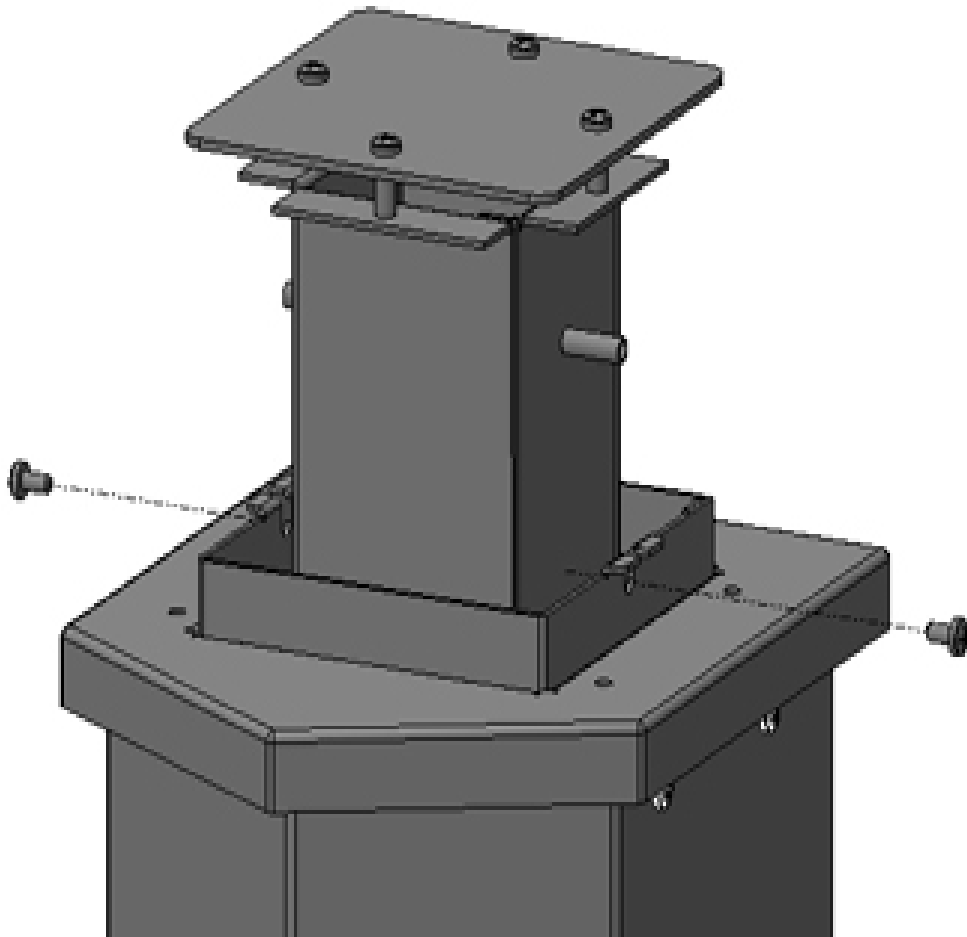

Figure 7.4
- Remove the two screws holding the Inner Chimney to the Top Piece. See Figure 7.4.